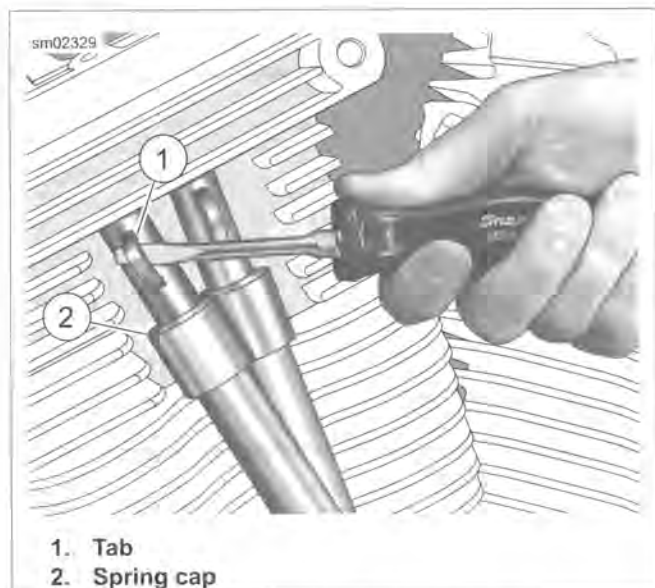

Figure 3-15. Removing Spring Cap Retainer
1. See Figure 3-15. Insert the blade of a small screwdriver into tab (1) of spring cap retainer. While pushing down on spring cap (2), rotate bottom of screwdriver toward out-board side to remove. Repeat step on second pushrod cover.